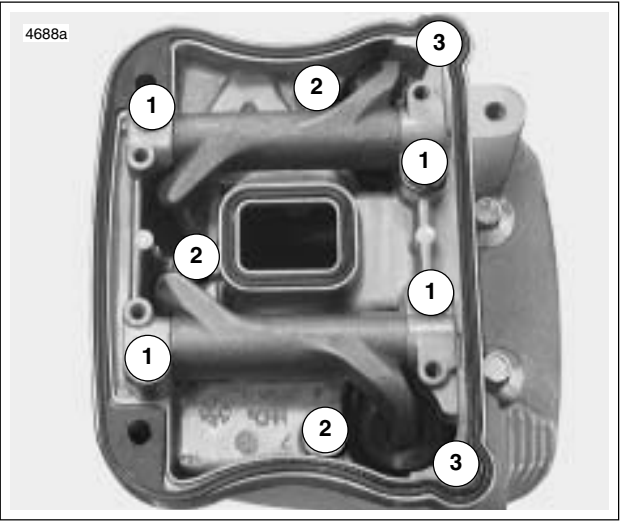

Figure 3-88. Lower Rocker Box Fasteners
9. See Figure 3-88. Install **new** gaskets with the bead facing up. Place lower rocker box assembly (with rocker arms and shafts) into position. Place push rods in rocker arm sockets.
10. See Figure 3-88. Install hardware attaching lower rocker cover to cylinder head in the following order. After loosely installing all fasteners, use a cross pattern on the four large bolts that fasten the lower rocker box to head to tighten and then torque to specifications. This will bleed the tappets. Finish tightening remaining fasteners. Fastener sequences, sizes and torque specifications are listed in Table 3-21.
- a. Tighten bolts (1) to 18-22 ft-lbs (24-30 Nm).
- b. Tighten bolts (2) to 135-155 **in-lbs** (15-18 Nm).
- c. Tighten bolts (3) to 135-155 **in-lbs** (15-18 Nm).